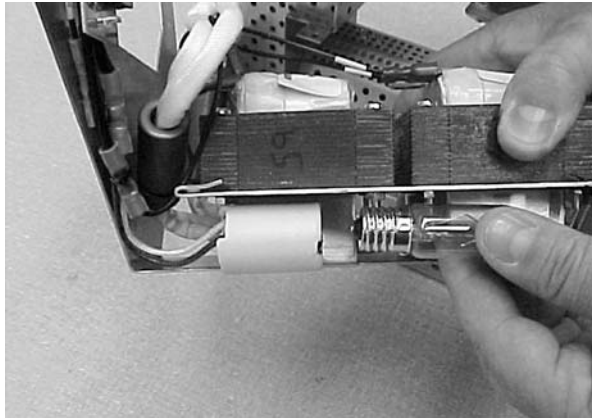

Figure 5-16 Starter Bulb Replacement
2. See Figure 5-16. Cut or remove the RTV sealant from the base of the bulb to remove the bulb.